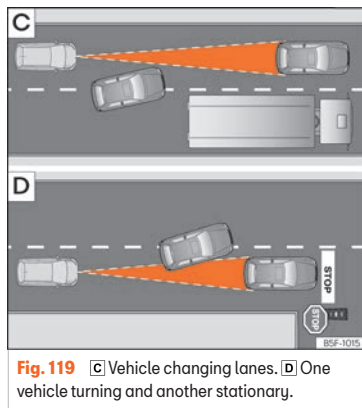

Fig. 119 [C] Vehicle changing lanes. [D] One vehicle turning and another stationary.
- Vehicles that move into your lane, a short distance from your vehicle >>> Fig. 119 [C].
The ACC does not react to stationary vehicles. If, for example, a vehicle detected by the ACC turns or moves over and there is a stationary vehicle in front of it, the ACC will not react to the second vehicle >>> Fig. 119 D.